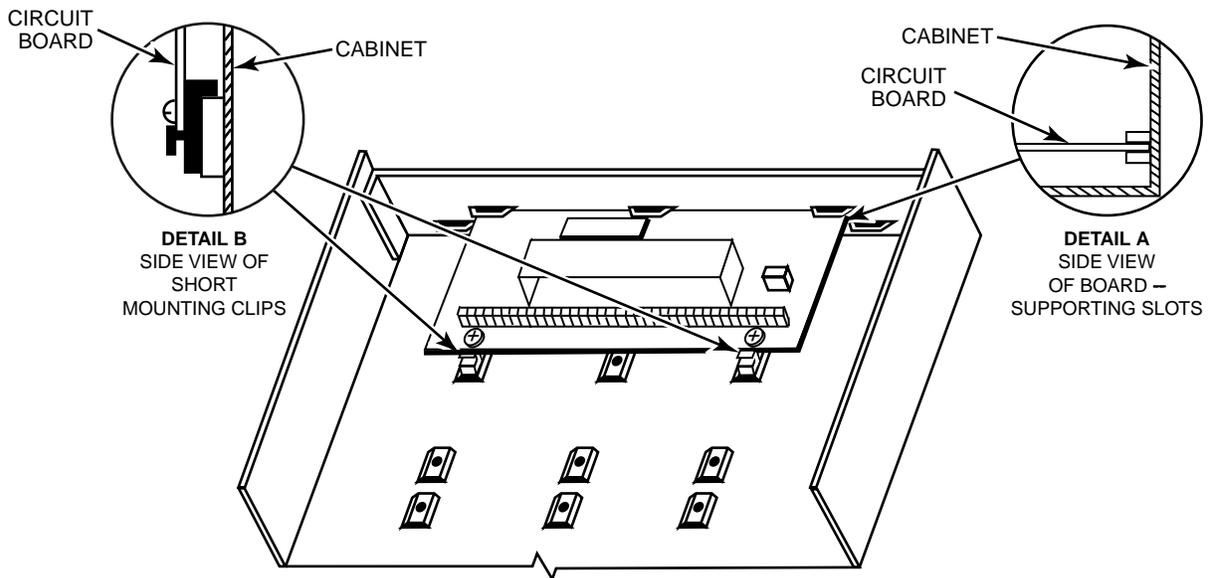

Figure 2. Mounting the PC Board
1. Hang two short mounting clips (provided) on the raised cabinet tabs (see Detail B in *Figure 2*).